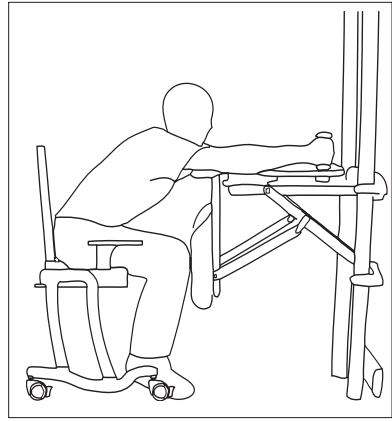

Figure 9a. The user approaching the trunk board and reaching out for the handholds.
- Wheel the client to the Support Station facing the padded concave trunk board (see Figure 9a).